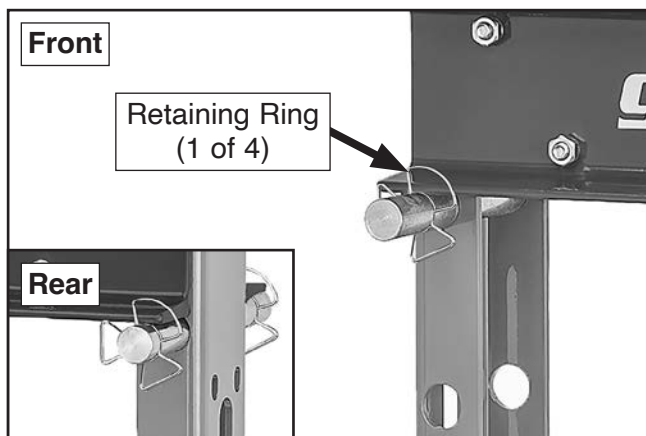
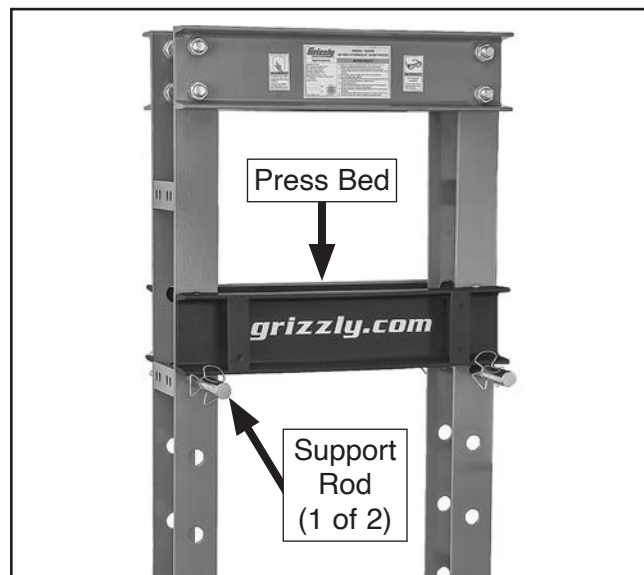

Figure 7. Example of retaining rings on support rods (shown with bed installed for reference).
Figure 8. Bed installed on support rods.
6. Install (1) retaining ring on front groove in each support rod (see **Figure 7**).
Note: Retaining ring groove closest to end of support rod should be positioned at rear of machine (see **Figure 7**). This provides a "handle" on front of support rods.
7. Insert (2) support rods through bed adjustment holes (see **Figure 8**), and install (1) retaining ring on rear groove in each support rod (see **Figure 7**).
8. With help from an assistant, lift press bed into position and place it between retaining rings on support rods (see **Figure 8**).